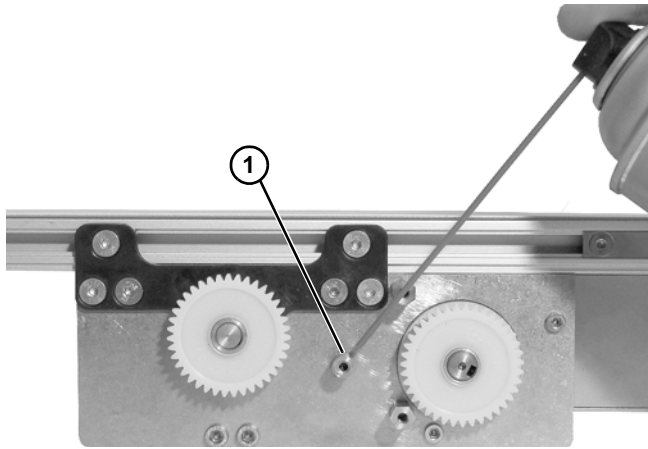

Figure 23
4. Apply a small amount of food grade grease to the shaft (Figure 23, item 1) of the middle gear.